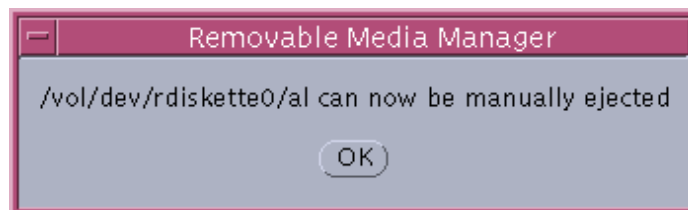

Figure 3. – Floppy Disk Eject Message.
- 19.2 Click [OK] on pop-up window as shown in Figure 3